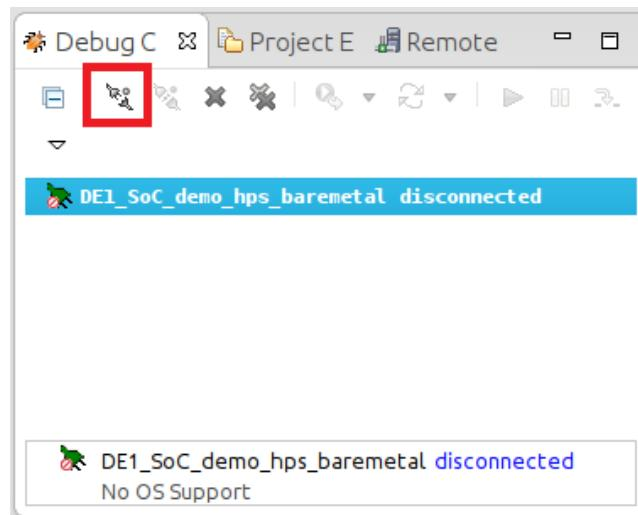

Figure 12-13. Debug Control View
21. In the "Debug Control" view, click on the "DE0\_Nano\_SoC\_demo\_hps\_baremetal" entry, then click on the "Connect to Target" button, as shown on Figure 12-13. Our debug script will load and execute the preloader, then it will load and wait at our application's "main()" function.